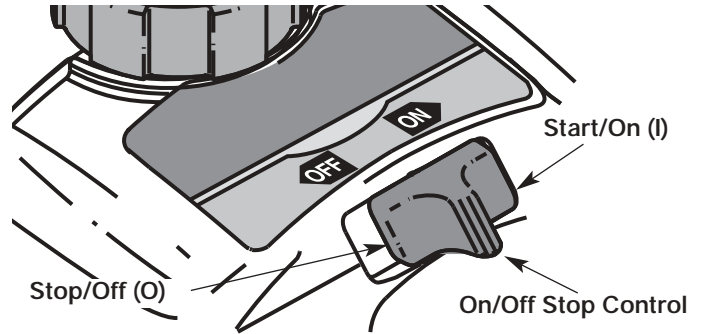
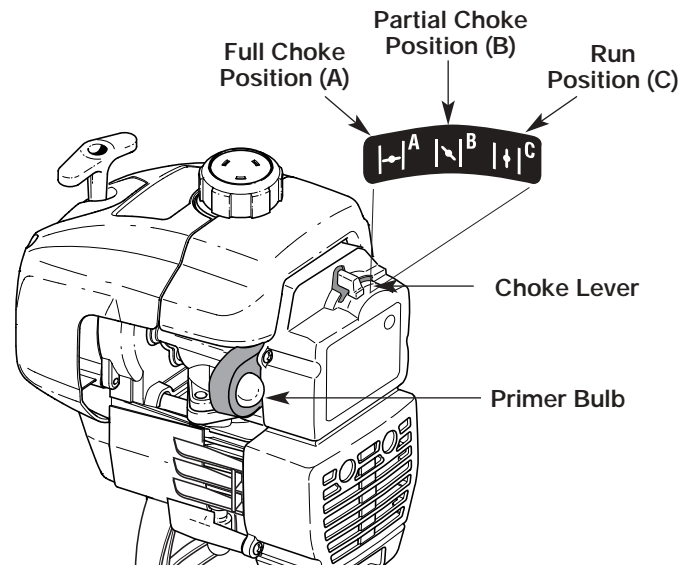

Fig. 6
Fig. 7
2. Put the On/Off Stop Control in the **ON (I)** position (Fig. 6).
3. Fully press and release the primer bulb 10 times, slowly, until **FUEL IS VISIBLE IN THE PRIMER BULB** (Fig. 7). If you can't see fuel in the bulb, press and release the bulb as many times as it takes before you can see fuel in it.
4. Place the choke lever in the **FULL** choke (**A** |←|) position (Fig. 7).
6. Place the choke lever in the **PARTIAL** choke (**B** |↘|) position (Fig. 7).
NOTE: If the engine floods while trying to start, place the choke lever in the **RUN** (**C** |↑|) position (Fig. 7). Squeeze the throttle control. Pull the starter rope briskly. The engine should start within three (3) to eight (8) pulls.
9. Squeeze the throttle control to warm up the engine for 5 to 10 seconds. Place the choke lever in the **RUN** (**C** |↑|) position (Fig. 7).
NOTE: Choking is unnecessary when starting a warm engine. Put the On/Off Stop Control in the **ON** position (Fig. 6), and start in **PARTIAL** choke (**B** |↘|) position (Fig. 7). After starting, place the choke lever in the **RUN** (**C** |↑|) position.
2. Put the On/Off Stop Control in the **OFF (O)** position (Fig. 6).